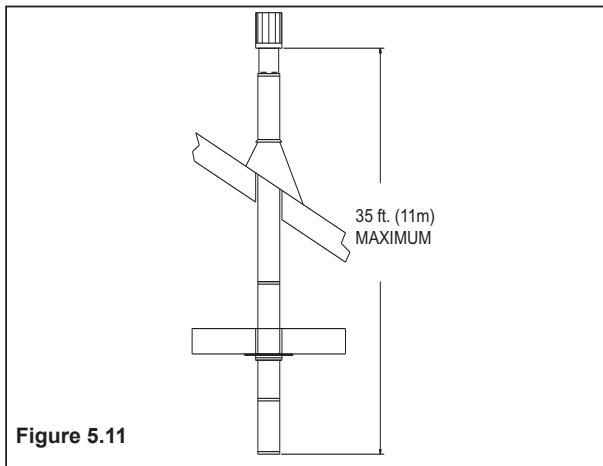

Figure 5.11
**NOTE:** Maximum vertical rise allowable is 35 ft. (11m), **Figure 5.11**.